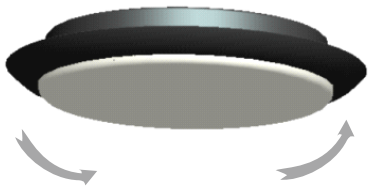

Fig 8.1
8.1 Remove the light assembly out of the box and turn the lampshade counterclockwise to disassemble it as shown in Fig 8.1, and then remove the LED light kit out of the light kit pan directly as light kit is fixed by magnetic attraction.